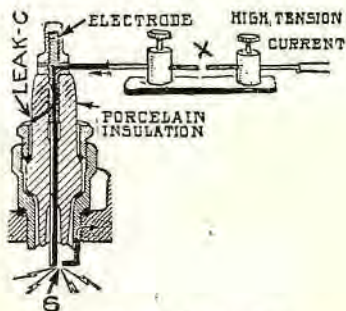

Fig. 23. Spark intensifier.
This device consists of an insulated base and screws for adjusting (Fig. 23).
The action is this: In order to cause the spark to jump the gap (S) at the spark plug in the cylinder, 5,000 or more volts are required. Suppose, however, that the spark plug has an accumulation of carbon from the porcelain insulation to the plug shell, or a crack in the porcelain which fills up with carbon, oil, and dirt, as at (C) to the electrode (Fig. 23). Although this path is longer than the spark-plug gap, it is not under compression and thus it offers less resistance than does the gap (S), or, in other words, it requires less voltage to go over the carbonized path. There is then a leak of voltage at the carbonized path which prevents 5,000 volts reaching the plug-gap (S). This explains the reason for its missing.